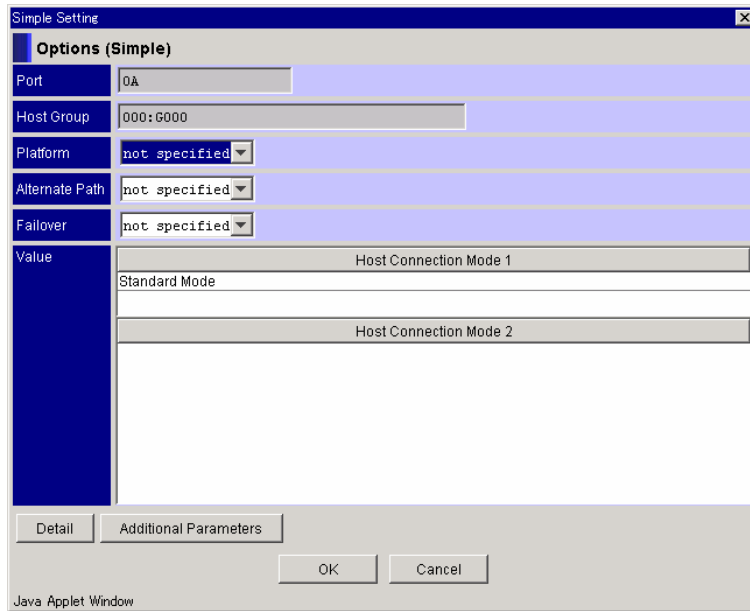

Figure 7.2 Simple Settings Dialog Box
5. As necessary, select **Platform**, **Alternate Path**, and **Failover**. See Figure 7.2. The combination, which can be chosen for every platform, is limited.